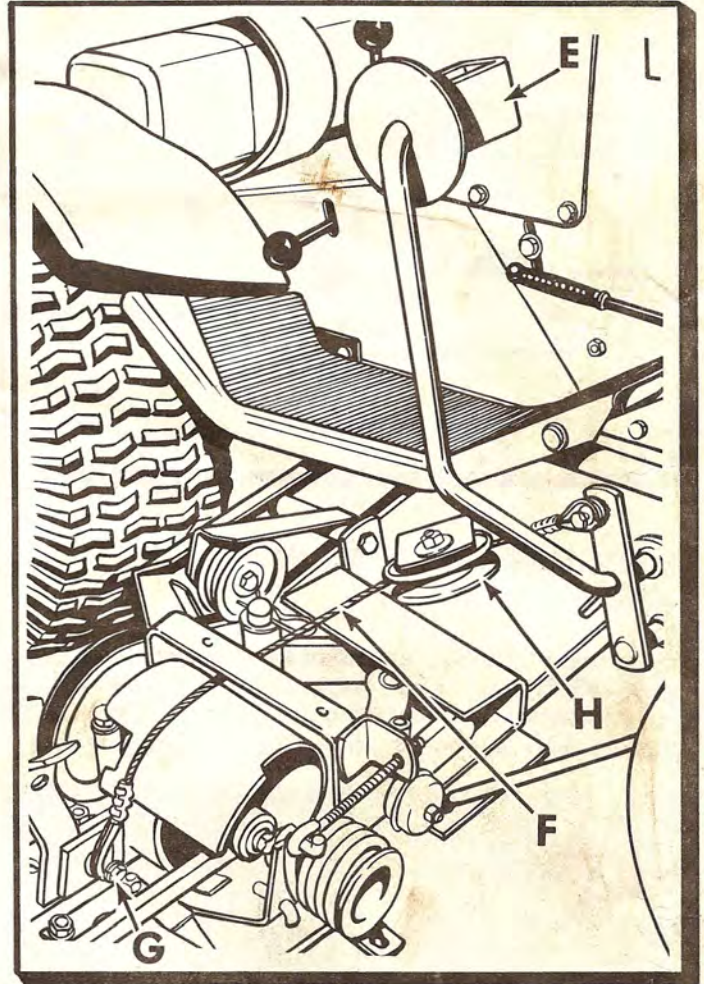

Fig. 11
## CONNECTION OF FOOT LIFT TO BASIC MOWER - FIG. 11
Pull foot lever (E) to rear of tractor and slip free end of braided wire (F) under housing stop guard assembly (removed for illustration) and loop over bolt (G). Be sure washer is between loop and end of bolt (Fig. 11). The distance of the foot pedal from the operator is controlled by slot in yoke of pulley (H). To adjust foot pedal nearer to operator, loosen nut on pulley (H) and move toward rear of slot. To adjust pedal farther from operator, move pulley to front of slot.